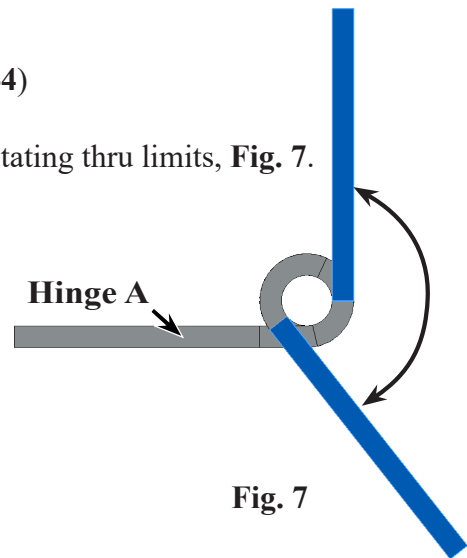

Fig. 7
Step 2. Confirm the angle limit by grabbing the Hinge B and rotating thru limits, **Fig. 7**.